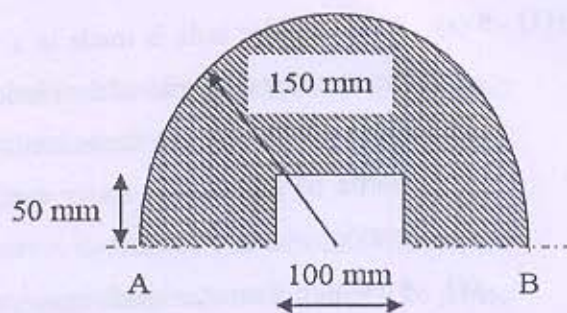

Figure 5
- Q - 5 (a) Determine the moment of inertia of the shaded area of a semi-circle as shown in **Figure 5** about its base AB. [04]